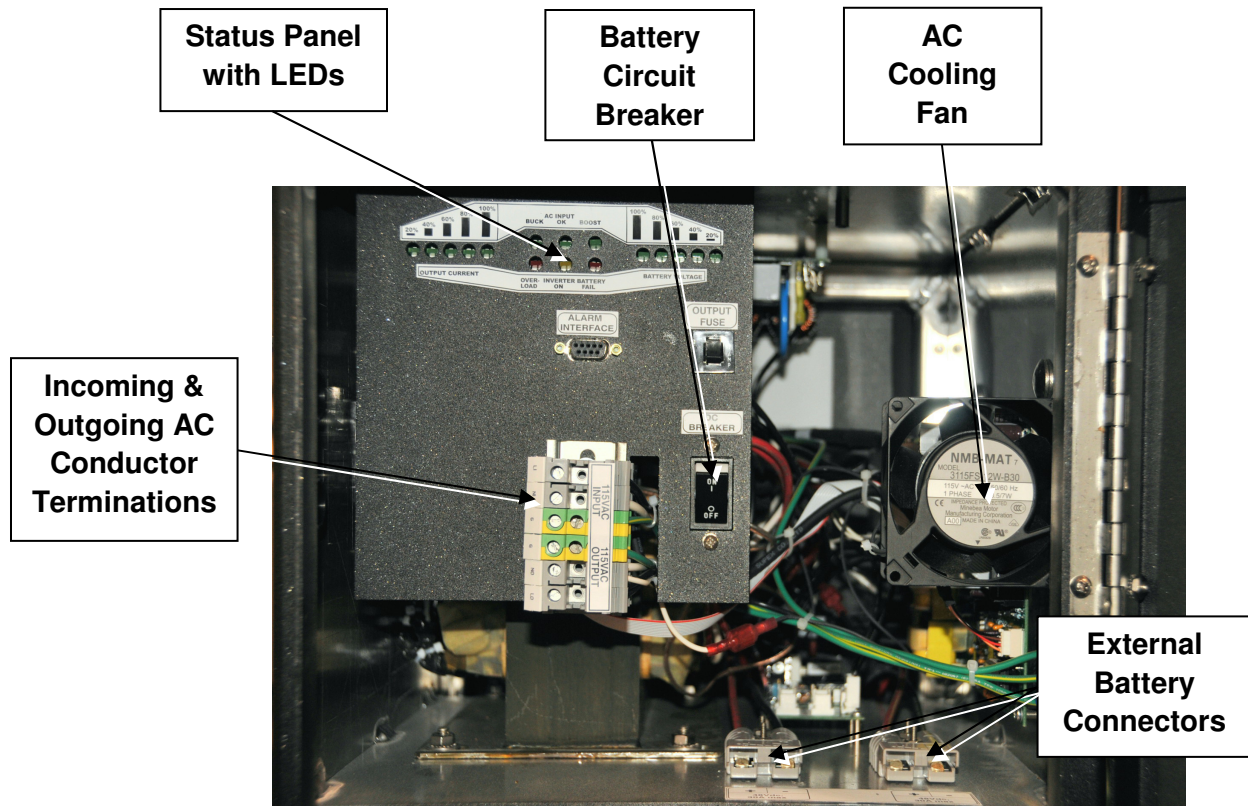

Figure 15: Incoming & Outgoing Wire Terminations
4.12 If bringing in cable through a conduit up the pole, make sure that the size of the conduit is ½” and not larger. Larger conduit connectors will not fit through the entry holes. See Figure 15 for cable entry and exit holes in the bottom of the electronic compartment.
4.15 Strip approximately 3/8” (9.5mm) insulation from the end of each of the six (6) input/output AC wires and terminate them in the wiring terminals in the lower left side of the electronics compartment. See Figure 15.
4.16 Terminate the Incoming wires on the terminals marked as shown in Figure 15 and as follows:
4.16 Terminate the Outgoing wires on the terminals marked as shown in Figure 15 and as follows: